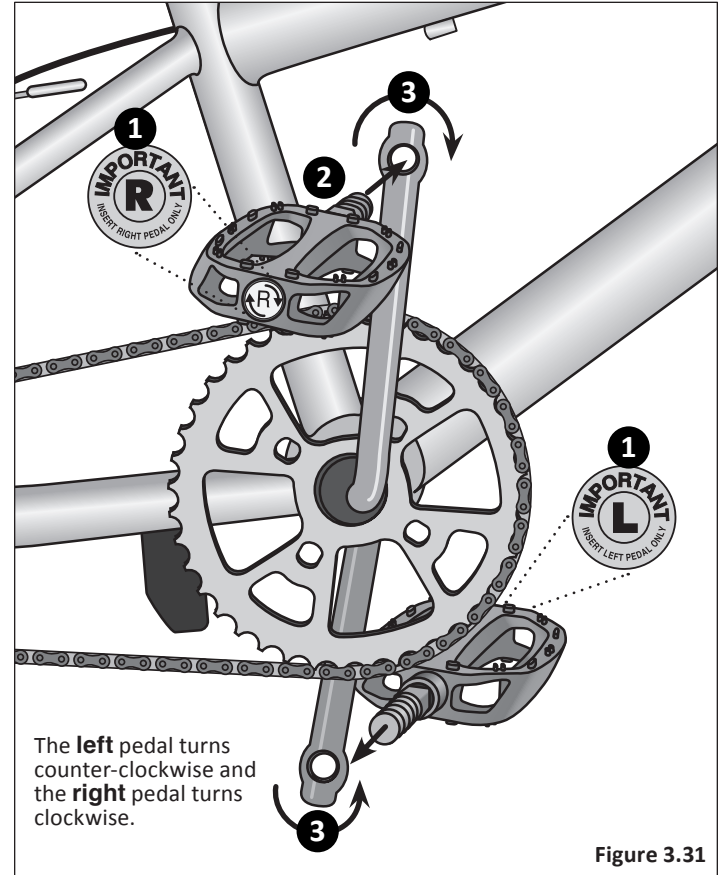

Figure 3.31
- 1 Match the pedal marked R with the right-hand crank arm and match the pedal marked L with the left-hand crank arm. **Figure 3.31**